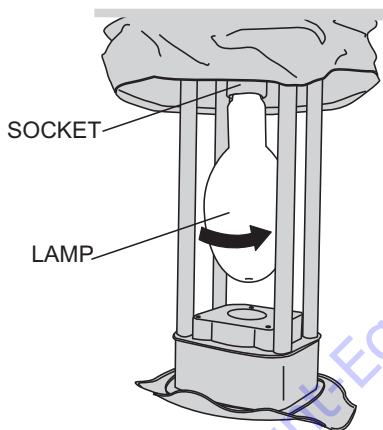

Figure 37. Installing Lamp
8. Install replacement lamp (Figure 37) into lamp socket and turn lamp in a clockwise direction until tight.